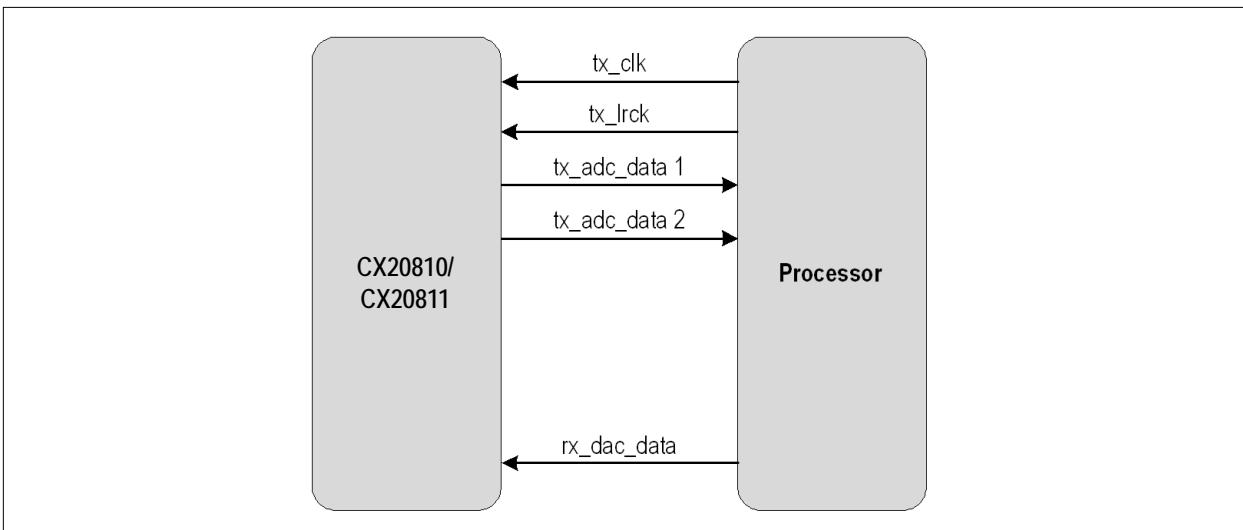

Figure 87: Five-Wire Slave Mode with ADC BCLK, LRCK
- Figure 87 on page 142 provides the five-wire slave mode with ADC BCLK/LRCLK